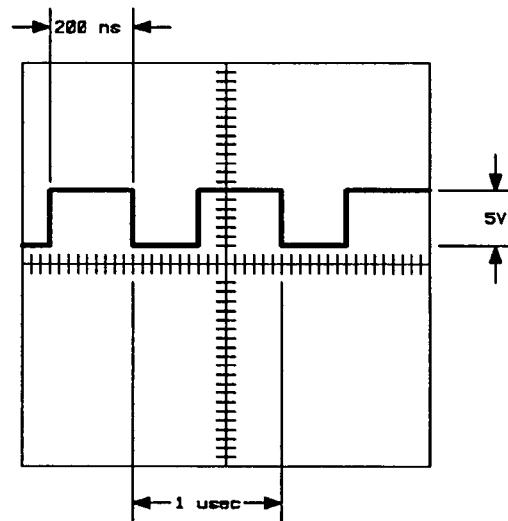

Figure 5-40. PAC Adjustment Waveform
4. Set Oscilloscope channel 2 input to DC coupled, 50Ω impedance, inverted. Adjust Pulse Generator amplitude to display waveform as shown in figure 5-40.